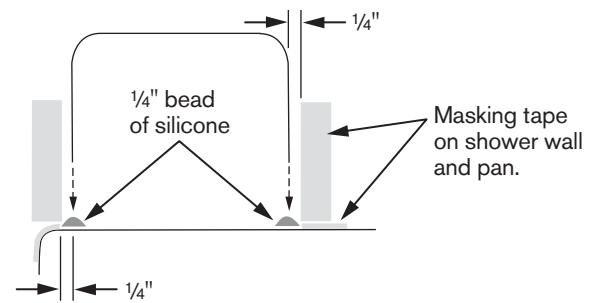

Figure 2
3. Carefully put the threshold in position (*Figure 2*).
4. Smooth out the excess silicone with a wet finger. A strip of masking tape, positioned 1/4" from the pencil line on the shower and 1/4" from the edge of the adaptor, will help ensure a smooth edge and make excess silicone easier to remove (*Figures 2 and 3*).